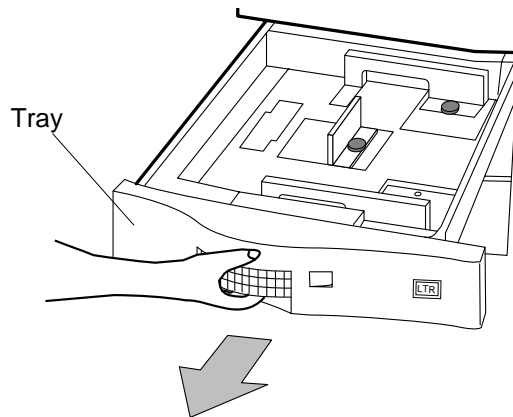

Figure 3-1 Pulling out Standard Tray
1. Pull out the standard tray as shown in Figure 3-1.